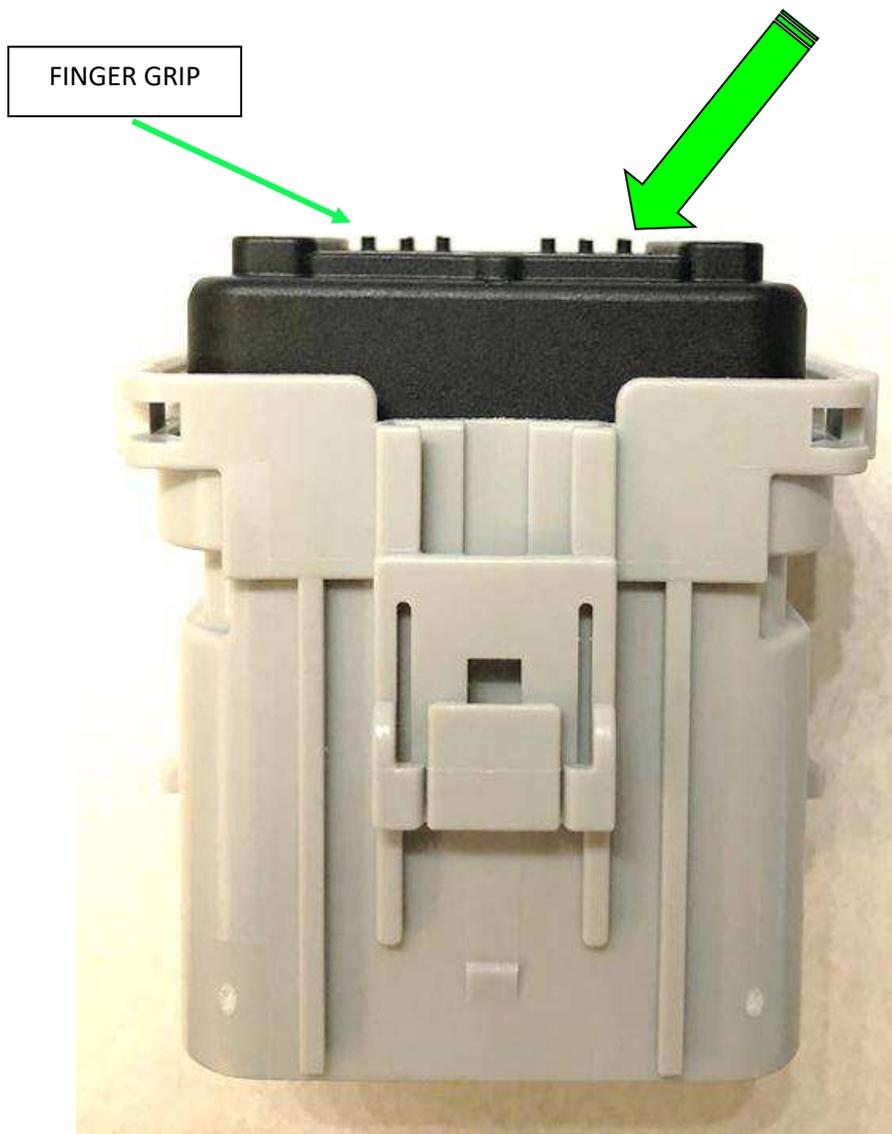

Figure 39
2. Pull back gently on the seal plug by utilizing the finger grip to ensure the seal plug is securely locked behind the connector plastic terminal latch. In fully seated position, the seal plugs stick out ~1 mm above top surface of mat seal cover. See figure 39 for visual of seal plug in fully seated position.